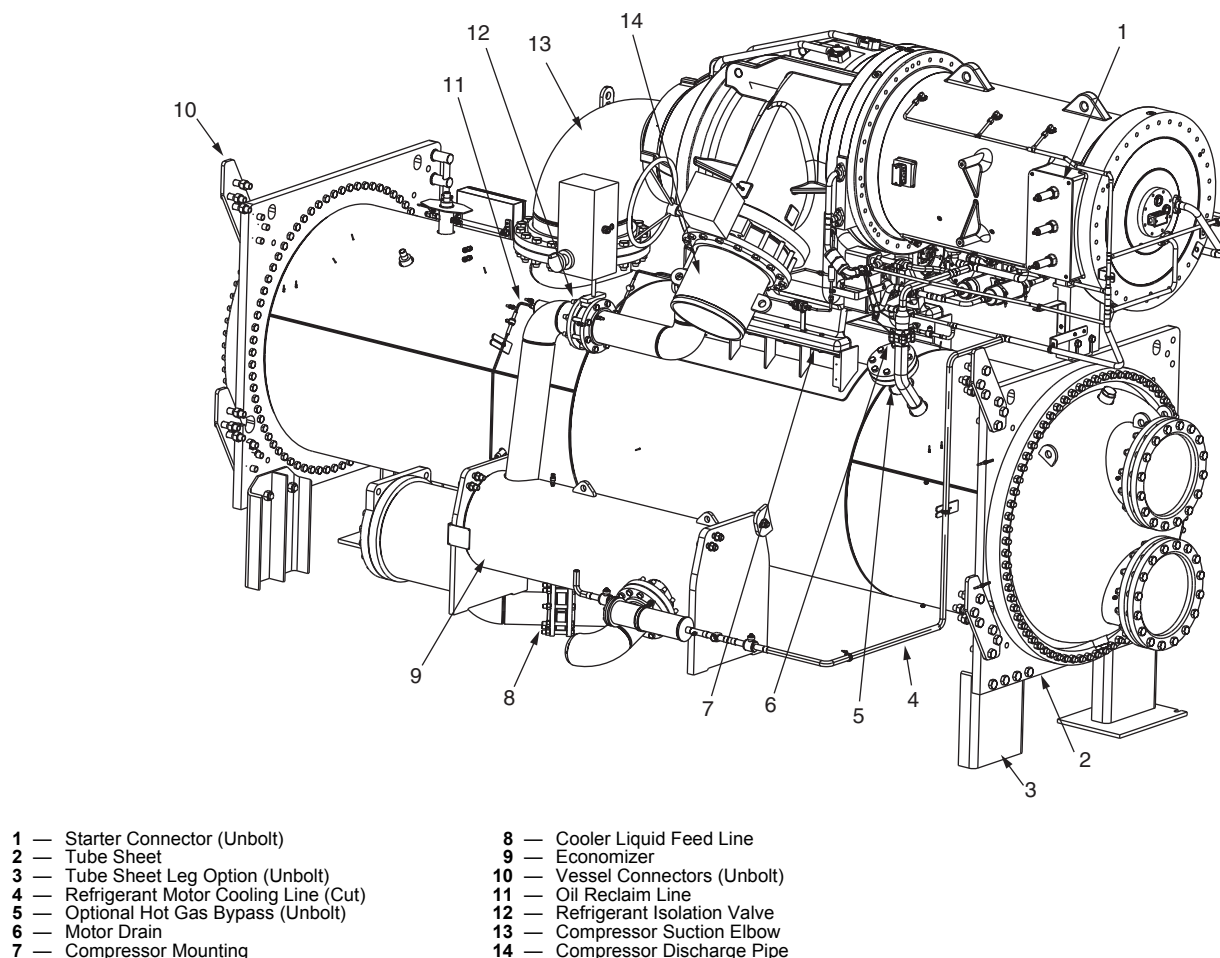

Fig. 28 — Cooler, Side View (Compressor Frame Size 6 Shown), 19XR6/7
1. Place a support plate under each tube sheet leg to keep each vessel level (Item 3, Fig. 28).
2. Cut the refrigerant motor cooling line at the location shown (Item 4, Fig. 28).
3. Disconnect the compressor discharge pipe at the compressor (Item 14, Fig. 28).
4. Disconnect the coupling of the isolation valve near the damper valve as shown in Fig. 28 (Item 12).
- b. motor power wires at the starter (Item 1, Fig. 28).
1. Unbolt the compressor suction elbow at the cooler flange (Item 13, Fig. 28).
3. Disconnect the motor refrigerant return line (Item 6, Fig. 28).
6. Disconnect the flared fitting for the oil reclaim line (Item 11, Fig. 28).
7. Unbolt the compressor discharge coupling (Item 14, Fig. 28).
9. Disconnect motor power cables at the starter lugs (Item 1, Fig. 28).
11. Unbolt the compressor mounting from the cooler (Item 7, Fig. 28).